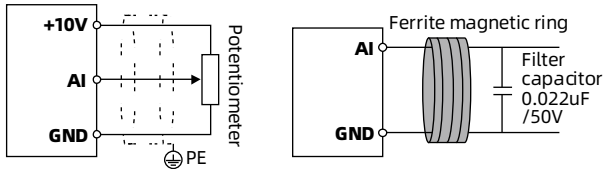

Figure 4-14 AI1 wiring (voltage input)
2. In serious interference occasions, the analog input signal should add filter capacitor and ferrite core, as shown in Figure 4-14.